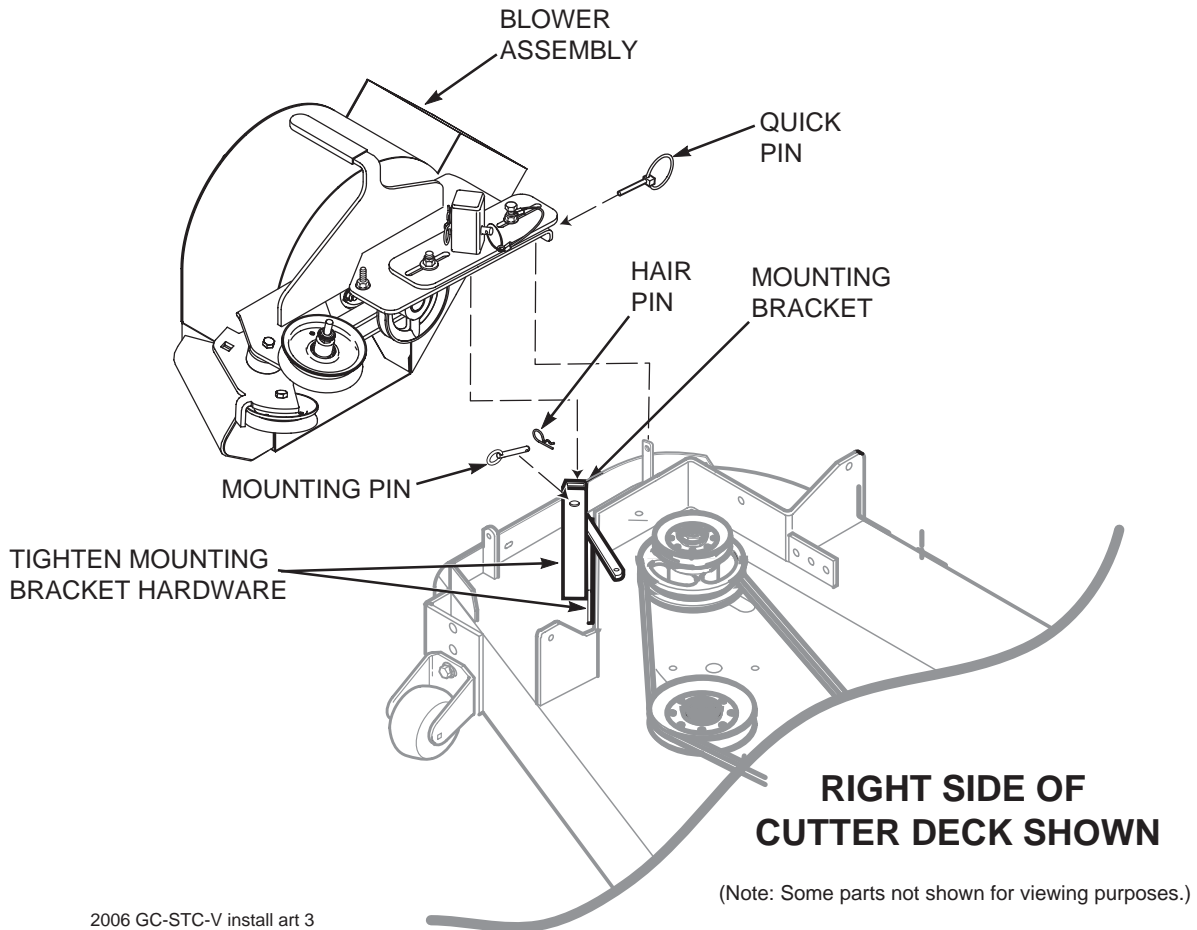

FIGURE 3-5
8. Install the blower assembly to the mounting bracket and secure with the mounting pin and hair pin. See Figure 3-5, Page 4.
9. Align the blower assembly with the discharge opening of the cutter deck. Tighten the hardware for the mounting bracket. Install the quick pin through the rear hole in the discharge chute mounting bracket. See Figure 3-5, Page 4.